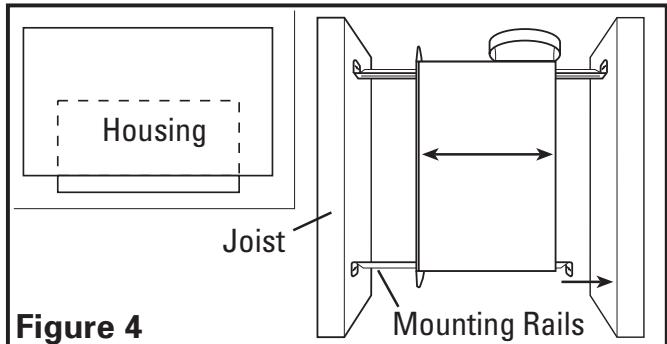
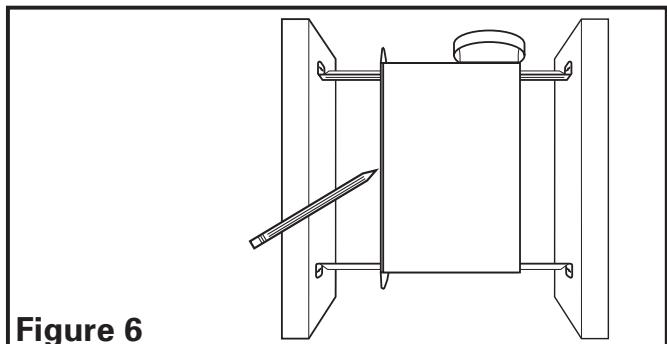

Figure 4
Figure 6
1. **Mounting Rail Installation:** Install the rails on the housing and position the housing next to the joist. Line up housing so it will be flush with the finished ceiling. Secure the ends of the rails with screws or nails (not included) to the joists and slide housing into final position (**Figure 4**).
1. **Mounting Rail Installation:** Set housing in position between the joist and trace an outline onto the ceiling material (**Figure 6**). Set housing aside and cut opening, being careful not to cut or damage any electrical or other hidden utilities. Install the rails on the housing and position the housing in the previously cut hole so that it is flush with the finished ceiling. Secure the ends of the rails to the joists with screws or nails (not provided) to ensure proper installation (**Figure 4**).